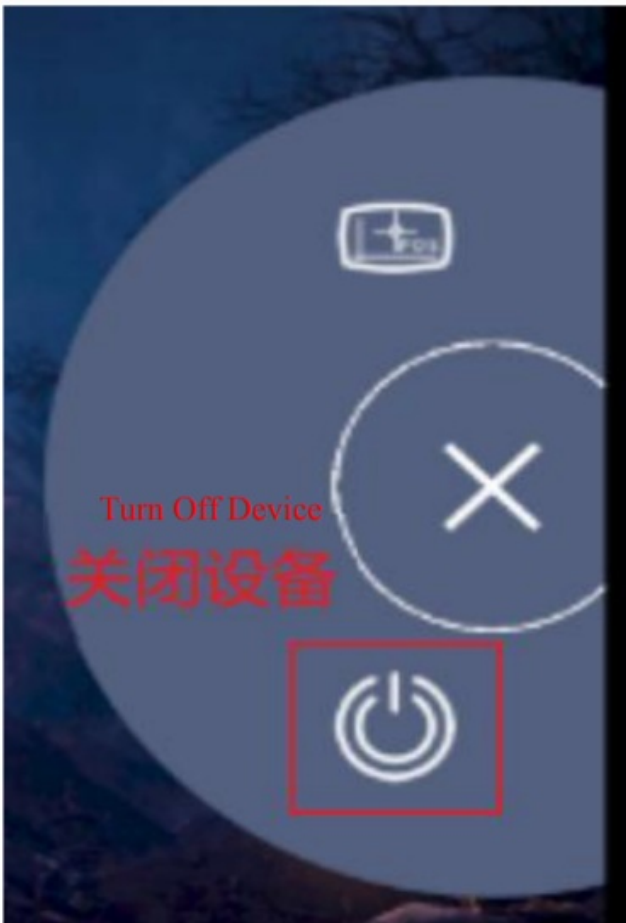

Figure 4-4 Turn off the device
1. After the system stops collecting data and completes data transmission, click the “Turn Off Device” button through the operation software client to turn off the device, as shown in **Figure 4-4;**